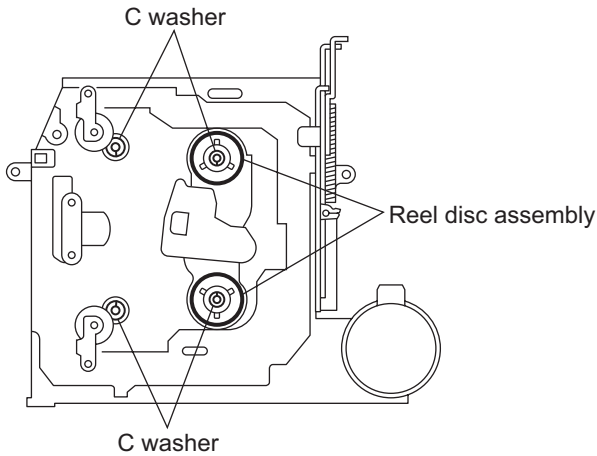

Fig.4
2.1.4 Removing the heat sink (See Fig.4)
2.2.7 Removing the reel disc assembly (See Fig.4)
(See Fig.4 and 5)**